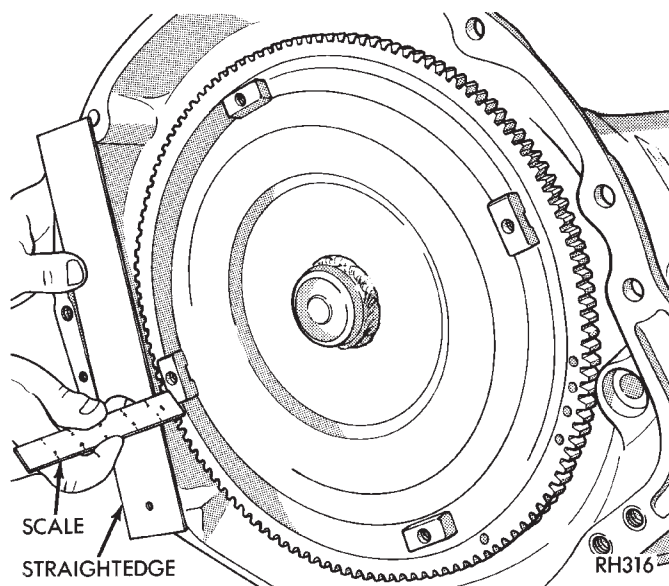
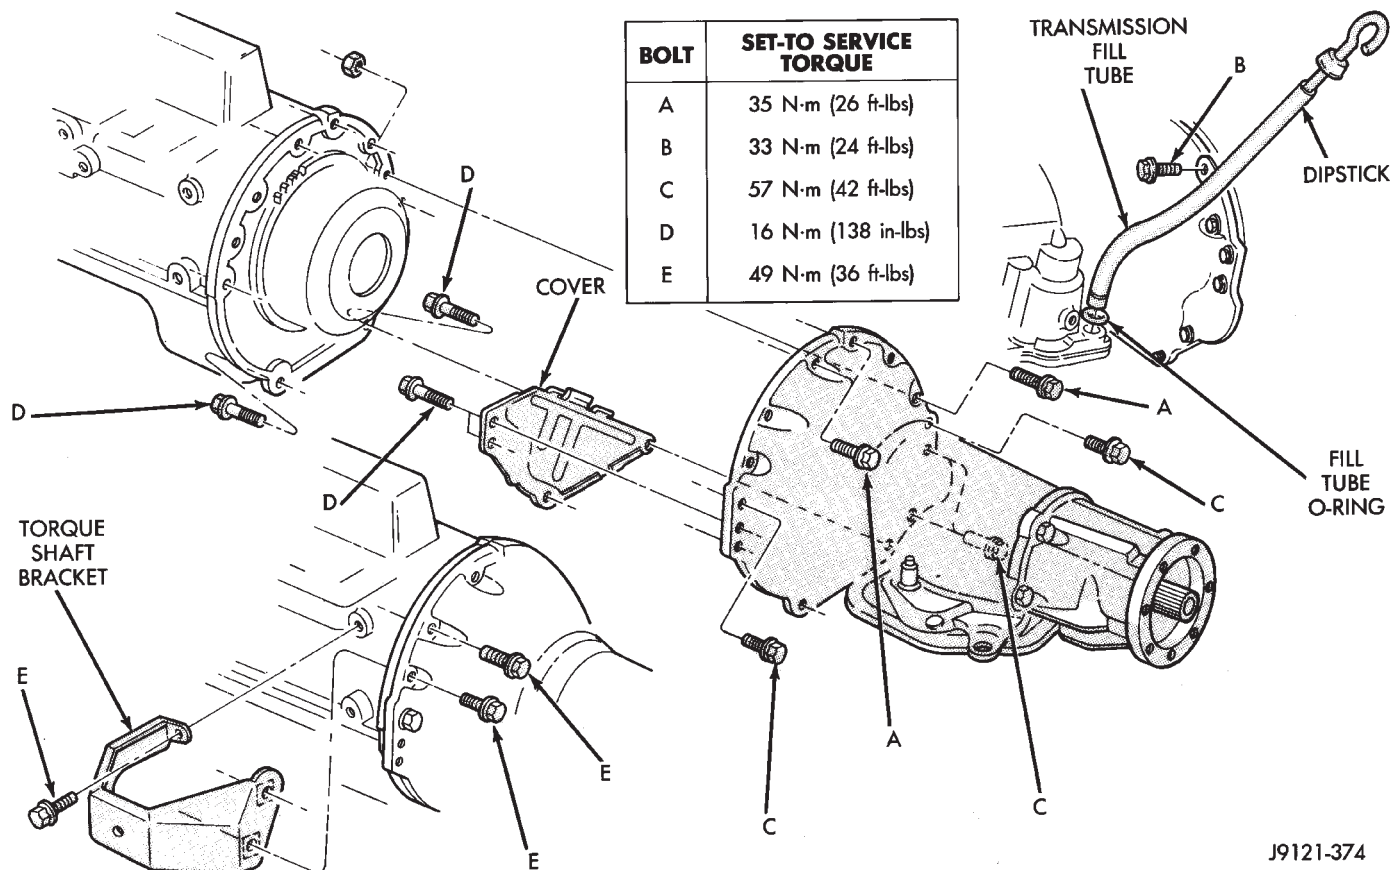

Fig. 5 Checking Torque Converter Seating
Fig. 6 Transmission Attachment
(1) Lubricate converter drive hub and pump seal with Mopar ATF Plus, or Dexron II transmission fluid. Then install converter. Turn converter back and forth to align drive slots in converter hub with pump gear lugs. Be sure converter is fully seated in pump (Fig. 5).
(2) Temporarily secure converter with C-clamp or metal strap attached across converter housing.
(3) Position transmission on jack and secure it with safety chains.
(4) Raise transmission and align converter with drive plate.
(5) Move transmission forward. Then raise, lower or tilt transmission to align converter housing with engine block dowels.
(6) Install two converter housing lower attaching bolts and tighten bolts to draw housing toward engine.
(7) Install and tighten converter attaching bolts.
(8) Install and tighten bolts that attach transmission to engine (Fig. 6).
(9) Install crankshaft position sensor as follows:
(10) Install transmission fill tube and O-ring (Fig. 6).